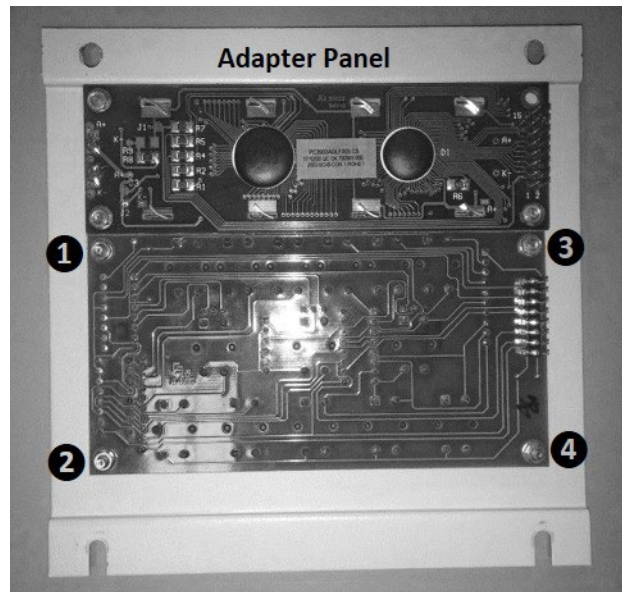

Fig. 2
4. Using a 3/16" nut driver, remove the four (4) nuts that attach the control board to the bottom of the adapter plate. (Fig. 2)